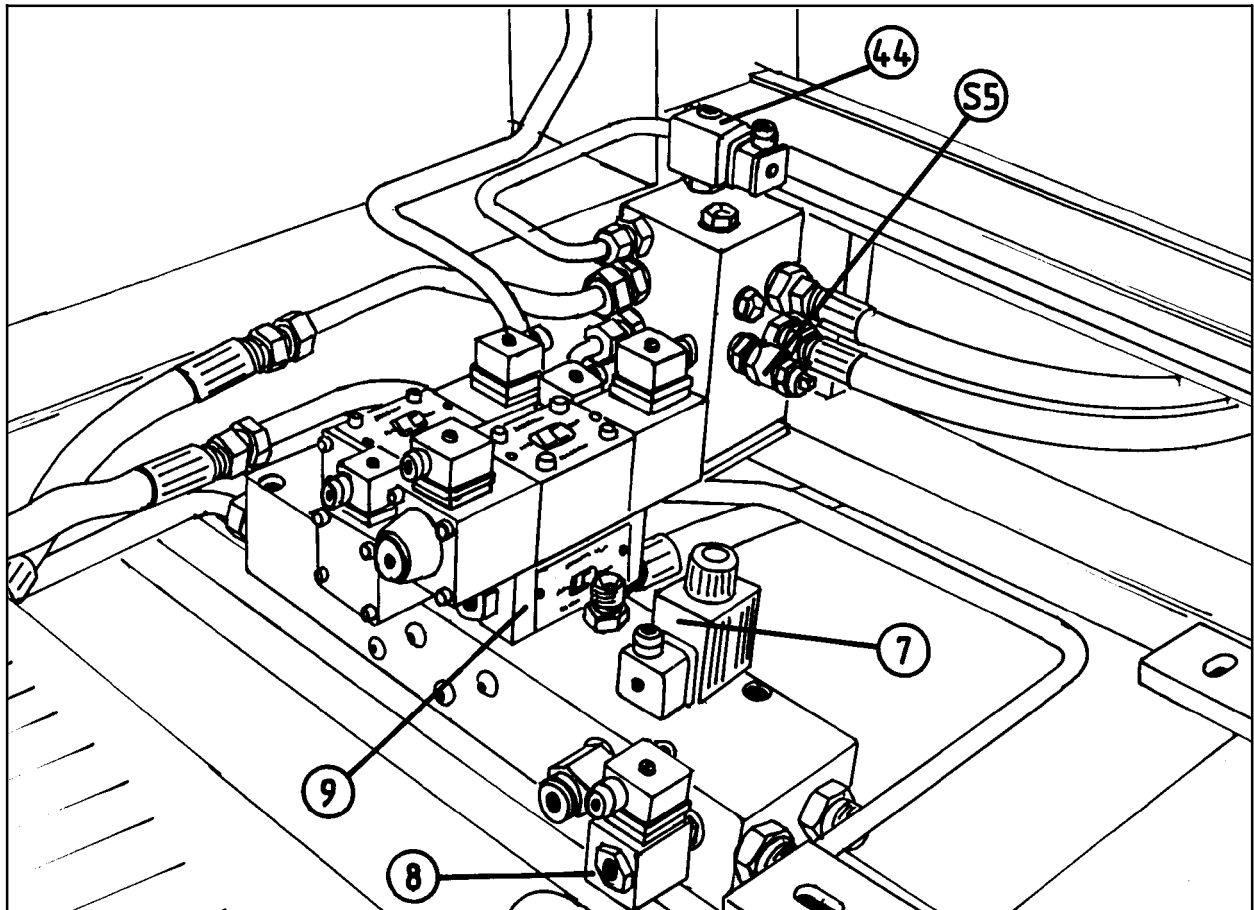
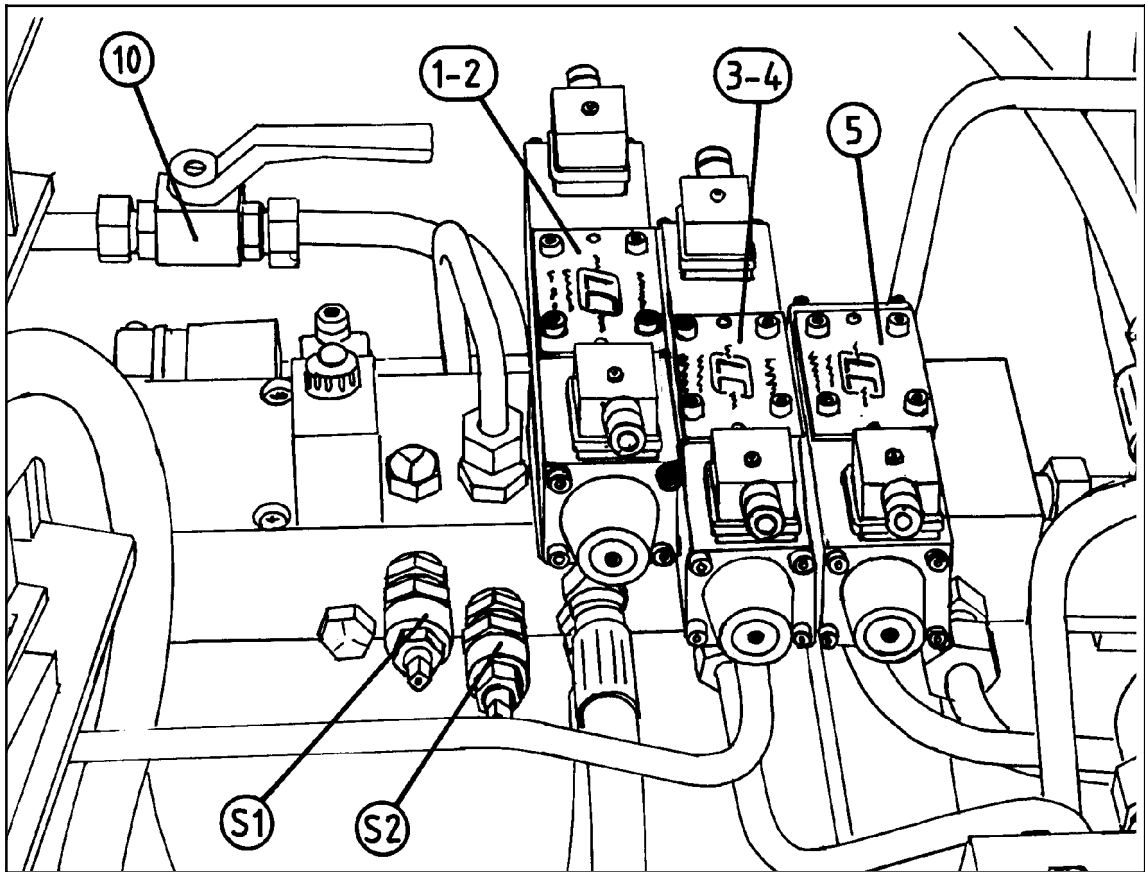

Fig. 14-1
Fig. 14-2
Most tractors have an oil pump which gives a certain quantity per revolution. Then the crane handle, (pos. 10, fig.14-2), has to be set in open position. (See chapter 4.7). If no other function is activated, the oil flows from the tractor, through the main valve block and back to the tank. When one of the functions on the control unit is operated, the master valve, (pos. 7, fig. 14-1) closes the oil flow circuit, and simultaneously the valve for the current function is opening.
The "closed centre" valve, (pos. 8, fig. 14-1), opens the oil flow into the block, and simultaneously the valve for the current function is opening.
To prevent that the oil pressure to the cutter is falling, so that it not holds the film long enough, there is a piloted non-return valve, (pos. 9, fig.14-1), underneath the magnet valve on the main block. (Pos. 1-2, fig. 14-2).
- 14.3 The hydraulic system is equipped with a safety valve, (S1), which is preset to 185 bar. It opens for the oil circuit to tank if max. pressure is exceeded. This valve is attached to the main valve block. See fig. 14-2.
At $\frac{1}{2}$ speed the magnet valve, (pos. 5, fig. 14-2), opens for oil to the wrapping arm, but it goes through a nozzle that limits the oil amount.
16.2 Only for magnet valves to the main functions. (Pos. 1-5, fig. 14-2).